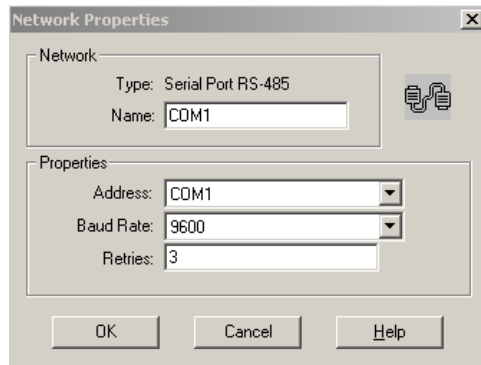

Figure 69. Network Properties
7. Enter correct COM Port and baud rate (Should match with the baud rate of the Multiplexer hardware). Entries shown in the Figure 69 below, are typically valid for most PC connections.